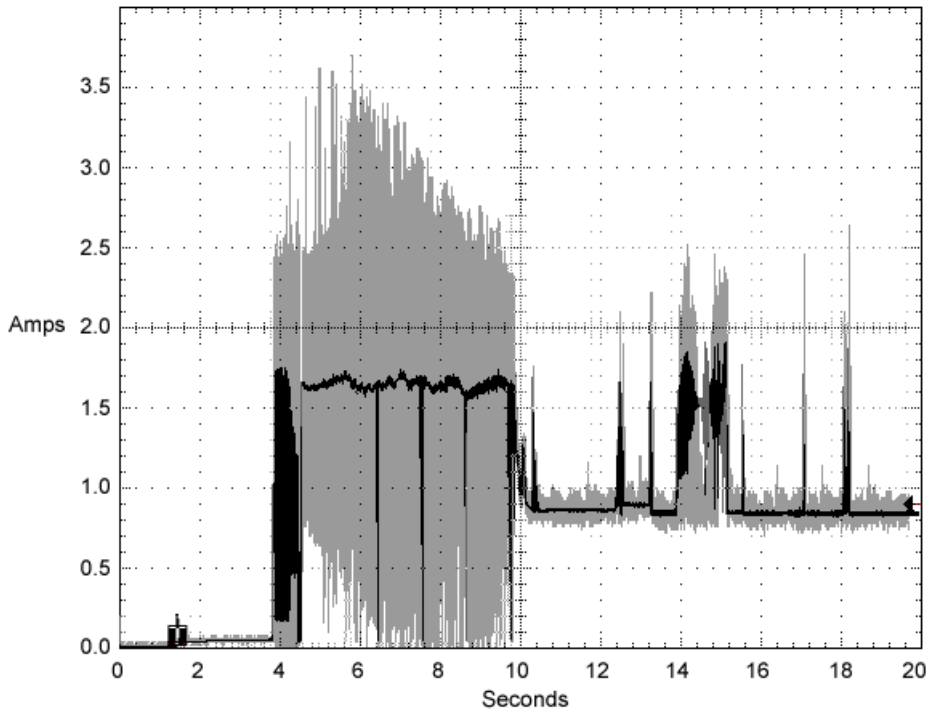

Figure 2. Typical ST3146954FC drive, 2 Gbit, +12V current profile
- [3] See +12V current profile in Figure 2.